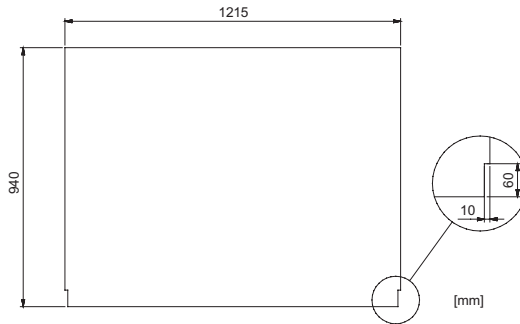
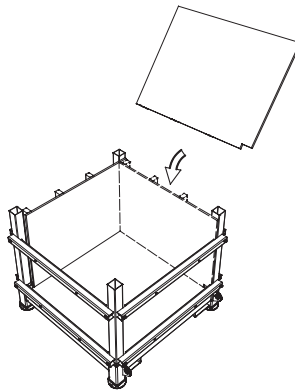

Figure 23. Dimension of the gravel side board. Note that the board has got notches in both bottom corners.
Figure 24. Placement of the side board units.
- 5.2. Cut four pieces of 18 mm formwork plywood, complying with EN 636-3, to the format as shown in Figure 23. Place the boards one after another in the Base, with the notches facing down, leaning against the Formwork Supports, see Figure 24. The boards shall be placed onto the Bottom Frame itself and not onto the Bottom Board. Fix the boards to the Formwork Supports with wood screws. When all the boards are in place and they create a box, go to step 6 for mounting of the Top Frame.